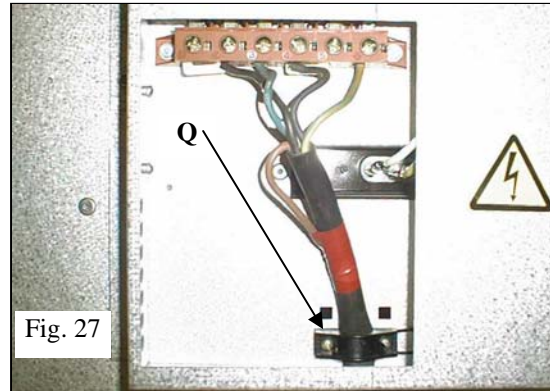

Fig. 27
- Secure the cable by means of cable clamp, item **Q** (Figure 27).